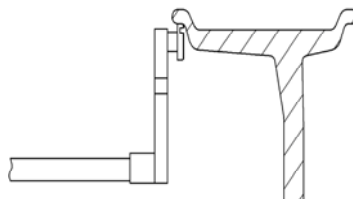
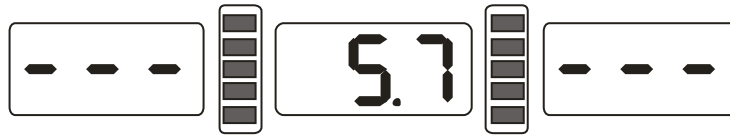

Figure 7-2
Figure 7-3
Rotate the measure scale, pull the scale head to inside concave on the edge of the rim, etc figure 7-2, first LED all off, then display ect figure 7-3,waiting put back scale.
8.2.3 Move scale, put scale head on the inside edge of rim ect figure 7-2, press ALU key, ect figure 8-3,self-calibration end, put back scale.
10.2.1 Follow figure 7.2 input date of rim.
10.3.1 Follow figure 7.3 input date of rim.
10.3.5 Follow figure 7.3 input date of rim